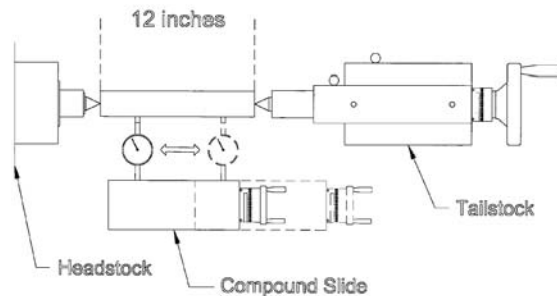

Figure 28
1. Fit a 12" ground steel bar between centers of the headstock and tailstock (Fig. 28).